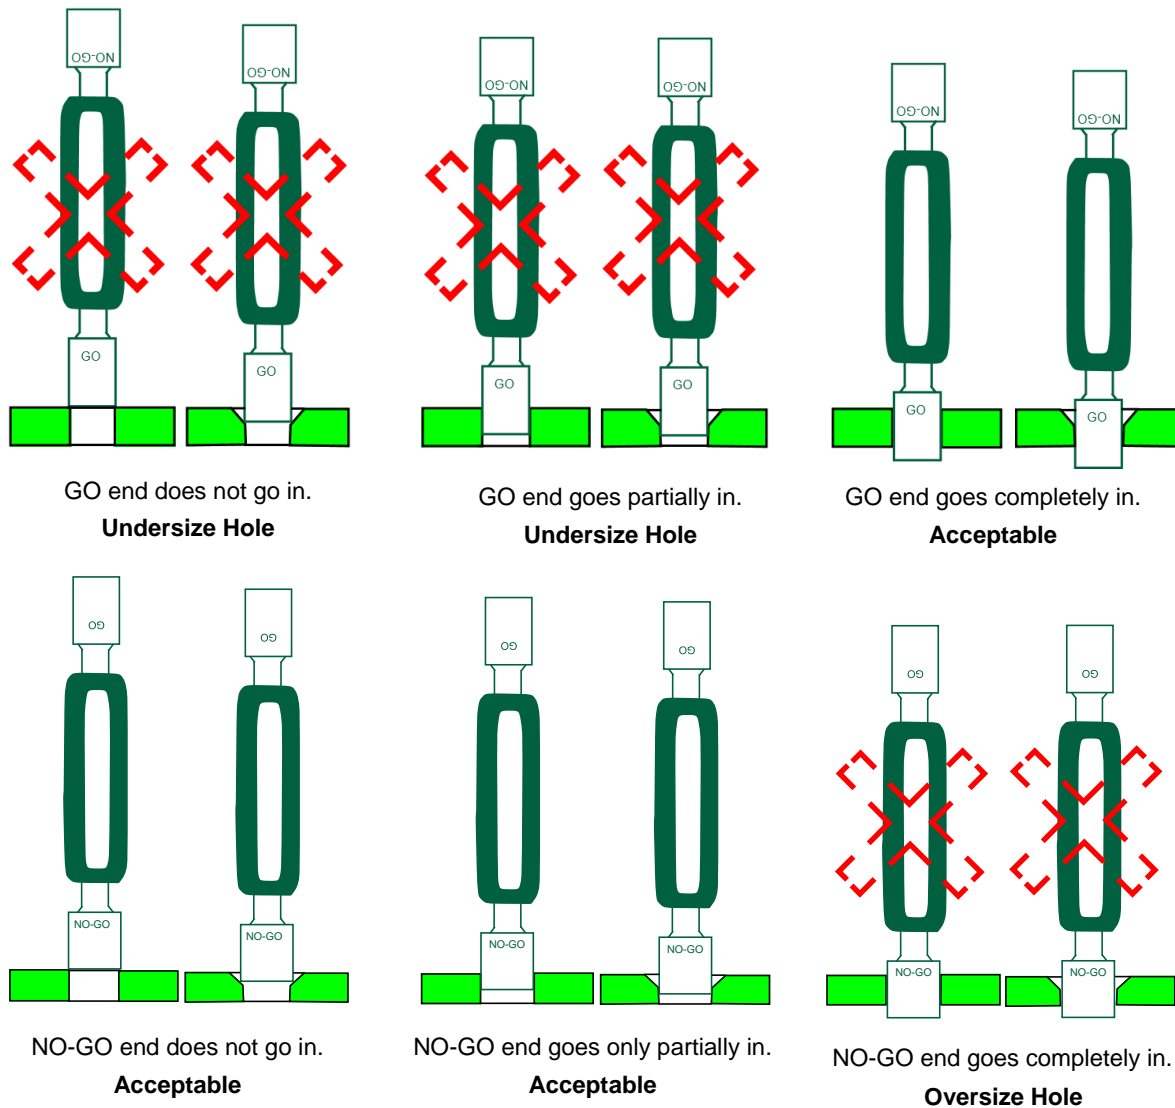

Figure 6. Use of GO/No-GO Gauges
- 5.4.2 In order to verify that the grip length specified is correct, measure the combined material thickness, after final drilling, using a grip gauge as shown in Figure 6. Always read to the next higher number (i.e., if the reading is past the **end** of the -3 marking then use a -4 fastener). The fastener grip length specified on the Product Specification, Shop Order or Assembly Manual is only a reference length, and if the grip length determined by measurement does not agree with the specified grip length, use the measured grip length.